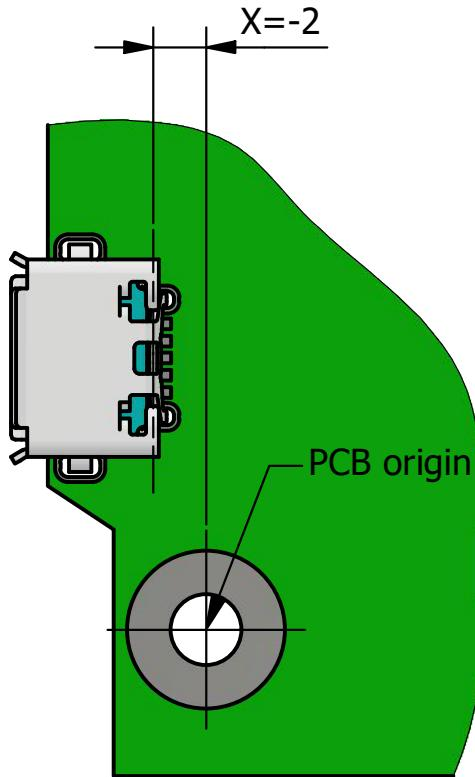
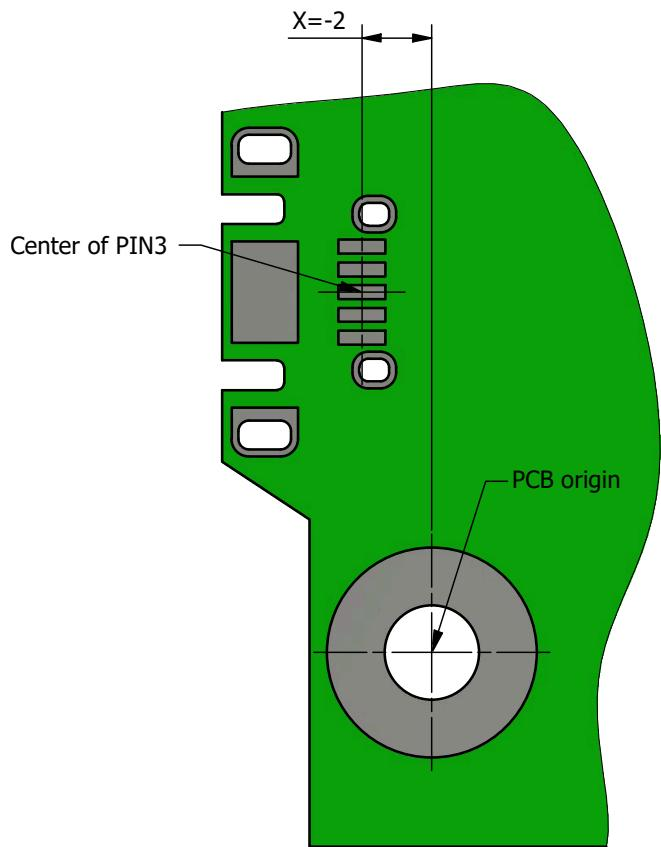

Figure 29: Hirose ZX62RD-AB-5P8(30) Placement
Figure 30: Hirose ZX62RD-AB-5P8(30) Footprint
The X-axis placement of the Hirose ZX62RD-AB-5P8(30) MicroUSB is shown in Figure 29. Figure 30 is provided solely to clarify the location of the reference pin for measurements.